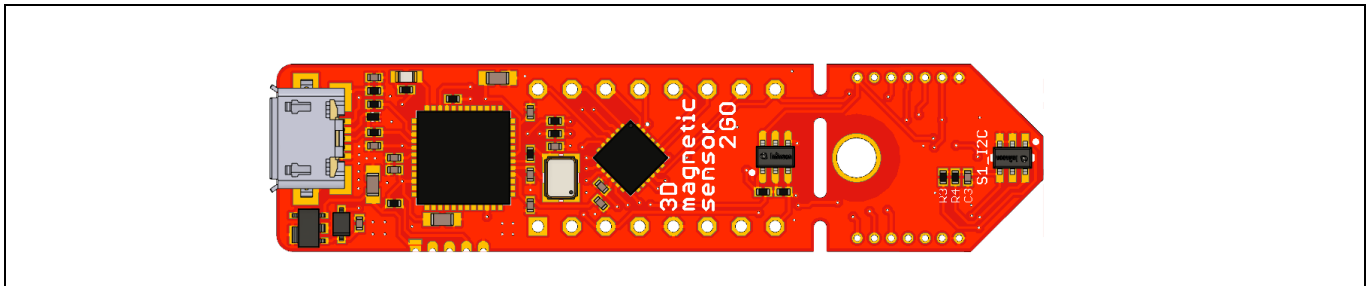

Figure 1 3D Magnetic Sensor 2 Go EvalBoard
- The 3D evaluation board (EvalBoard) as shown in Figure 1, a ready-to-use printed circuit board (PCB) with the 3D Hall sensors. The EvalBoard is based on the XMC2Go-Kit. More technical documents and detailed description can be found at <http://www.infineon.com/xmc2go>